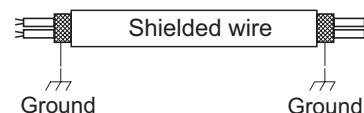

Fig. 1-4
- (5) Use shielded wires for inter-unit control wiring (c) and ground the shield on both sides, otherwise misoperation from noise may occur. (Fig. 1-4)